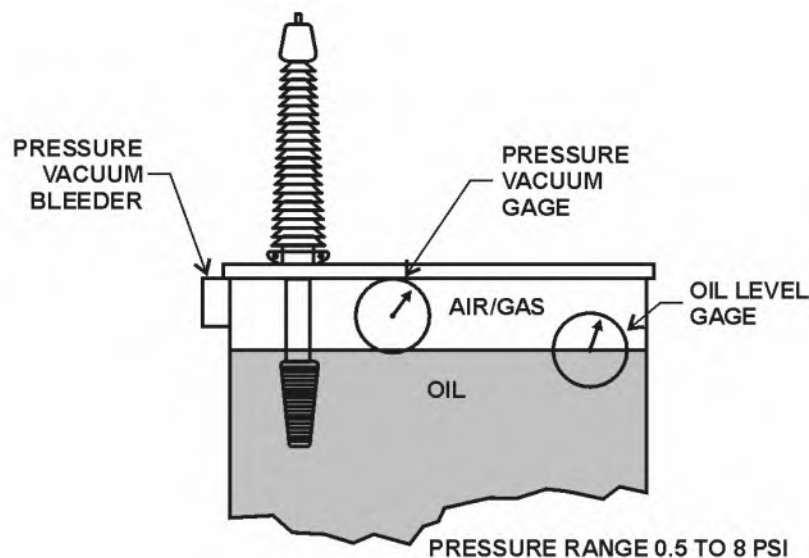

Figure 35 – Pressurized Breathing Transformer.
4.9.1.2 Sealed or Pressurized Breathing – This design is similar to the free breathing type with the addition of a pressure/vacuum bleeder valve. When the transformer was installed, pressurized dry air or nitrogen was placed on top of the oil. The bleeder valve is designed to hold pressure inside to approximately plus or minus 5 psi (figure 35). The same problems with moisture and oxygen occur as previously described. However, these problems are not as severe because “breathing” is limited by the bleeder valve. Air or nitrogen (N₂) is exhausted to the outside atmosphere when a positive pressure greater than 5 psi occurs inside the tank. This process does not add moisture and oxygen to the tank. However, when cooling, the oil contracts and, if pressure falls 5 psi below the outside atmosphere, the valve allows outside air into the tank, which pulls in moisture and oxygen.